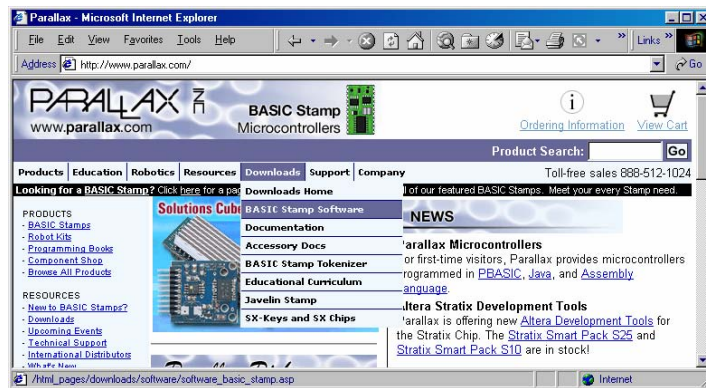

Figure 1-4
It's easy to download the BASIC Stamp Editor software from the Parallax web site. The web page shown in Figure 1-4 may look different from the web page you see when you visit the site. Nonetheless, the steps for downloading the software should still be similar to these:
- ✓ Using a web browser, go to www.parallax.com (shown in Figure 1-4).